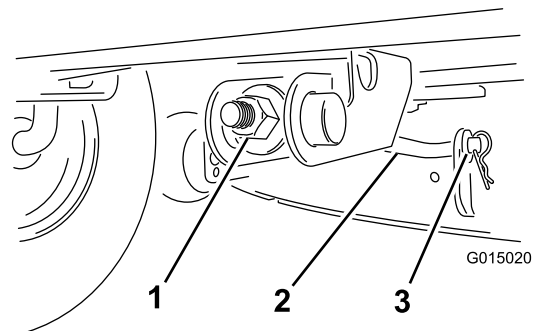

Figure 34
6. Remove the hairpin cotter and washer from the front support rod (Figure 34), and carefully lower the mower deck to the ground.
- Attach the front support rod to the mower deck with the washer and the hairpin cotter (Figure 34).